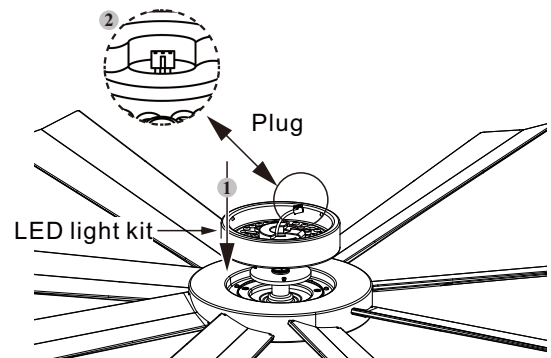

Figure 7
Step 2. Pull the light wire from motor through the hole of light kit. Connect the plug as in drawing. (Fig 7)